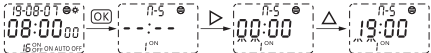

Figure 13 LCD display (set the first group to power on)
3.2.2.6.1 Press the "▽" key, the "15 OFF" character flashes, and press the "OK" key to enter the timing setting state (1 ON, first turn on). Press the "▷" key to select the bit to be adjusted, and press the "△" key or "▽" key to set the clock and timing latitude functions, as shown in Figure 13. The character "⊗" appears to indicate that the group of timing latitude functions is turned on. After the setting is completed, press the "OK" key to save.